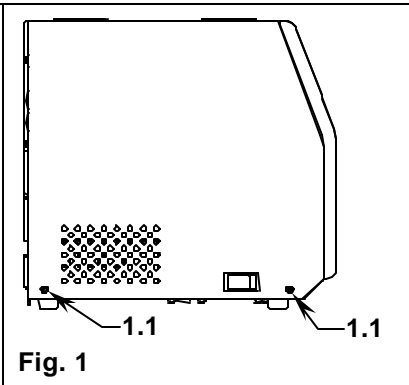

Fig. 1
3. Remove two M4 Phillips screws (1.1) from the left side panel of the printer (Fig.1 & 2).
- 13.** Check your work previously done, then secure the Cover Assembly to the printer chassis with the five M4 Phillips screws (see Fig.1 & 2).